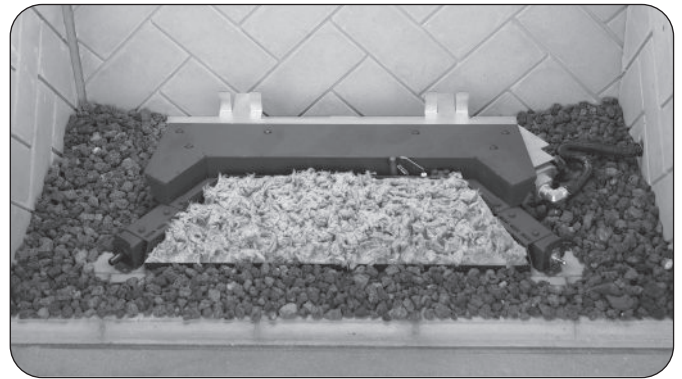

Fig. 15-1 Place lava media (if option purchased)
1. Spread the lava granules on the floor of the fireplace, around the front and sides of the burner system (see Fig. 15-1).